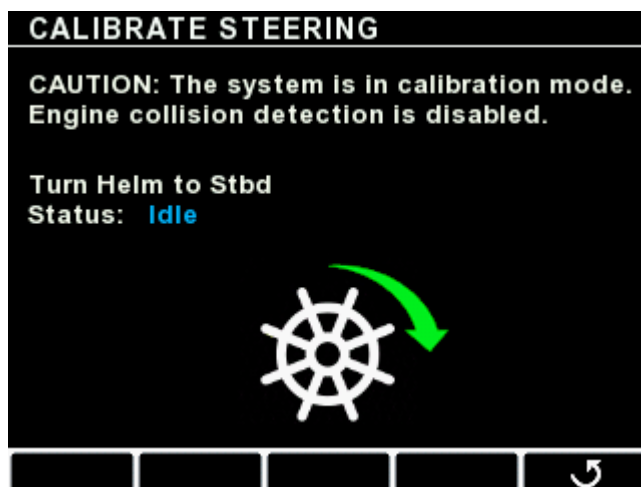

Figure 6-7.
3. Once you've verified that only the starboard actuator moves, press **Proceed** to enter calibration mode. The display will prompt you through the calibration procedure. Follow the instructions on screen, as shown in figure 6-7. Keep turning in the indicated direction until the screen prompts you to stop or change direction.